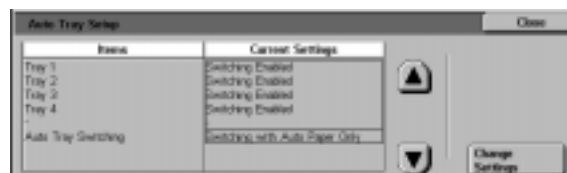

Figure 10: Auto Tray Setup screen
- 2 Touch the **Auto Tray Setup** icon to display the Auto Tray Setup screen, as illustrated in Figure 10.